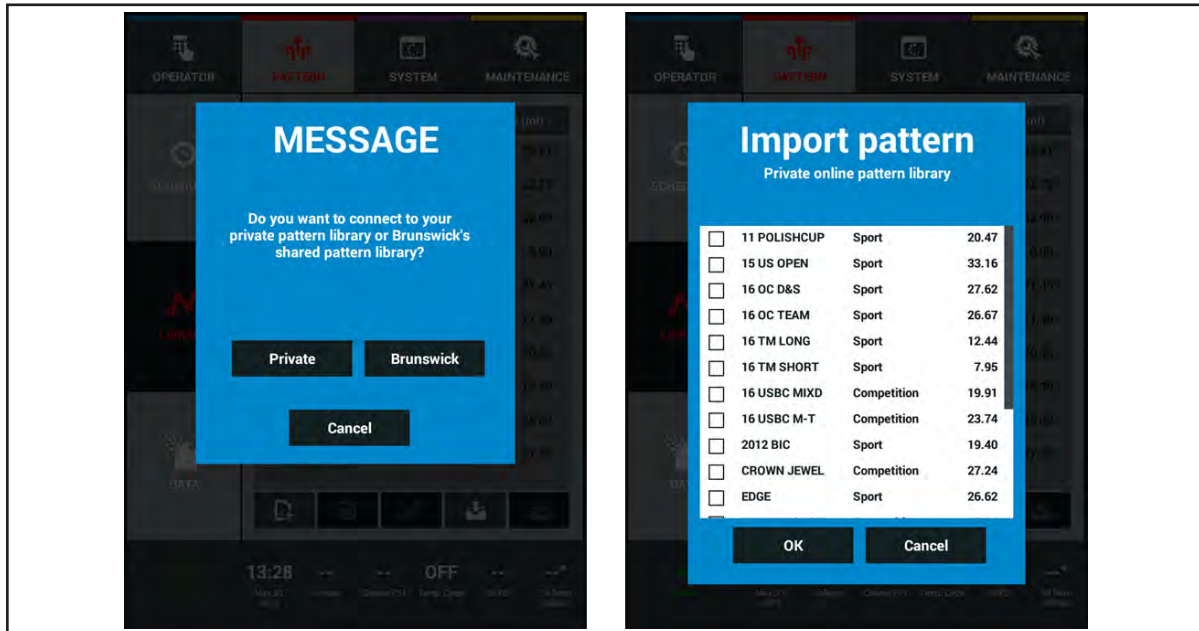

Figure 4-23. Private Library Import Screens
- a. “Private” to view patterns you have saved to the Brunswick Cloud. Refer to *Figure 4-23*.